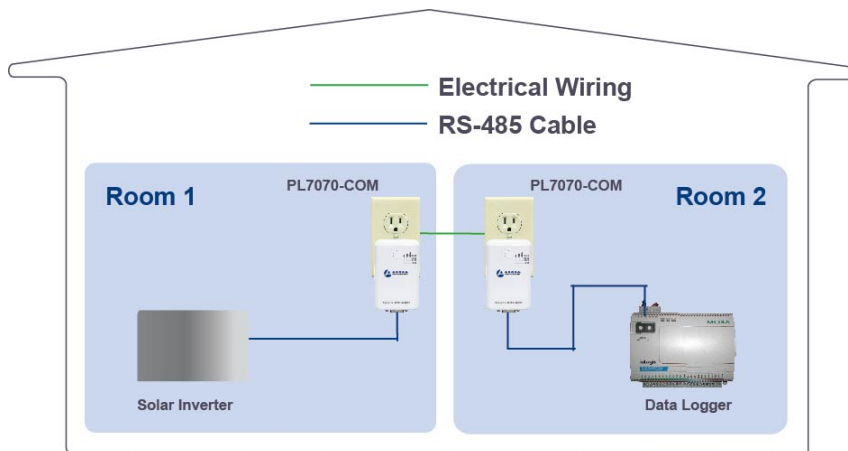

Figure-1 Solar Inverter and Data Logger connection via PL7070-COM PLC adapters.
4. See Figure-1 below for your reference.